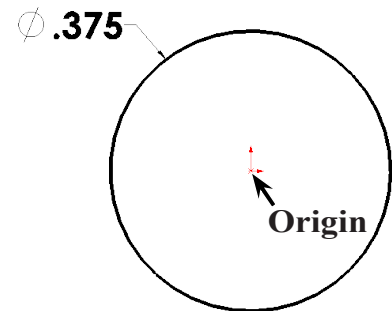

Fig. 2
Step 3. Click **Circle**  (S) on the Sketch toolbar.
Step 4. Sketch circle starting at Origin , **Fig. 2**.
Step 5. Click **Smart Dimension**  (S) on the Sketch toolbar.
Step 6. Dimension circle **diameter .375**, **Fig. 2**.